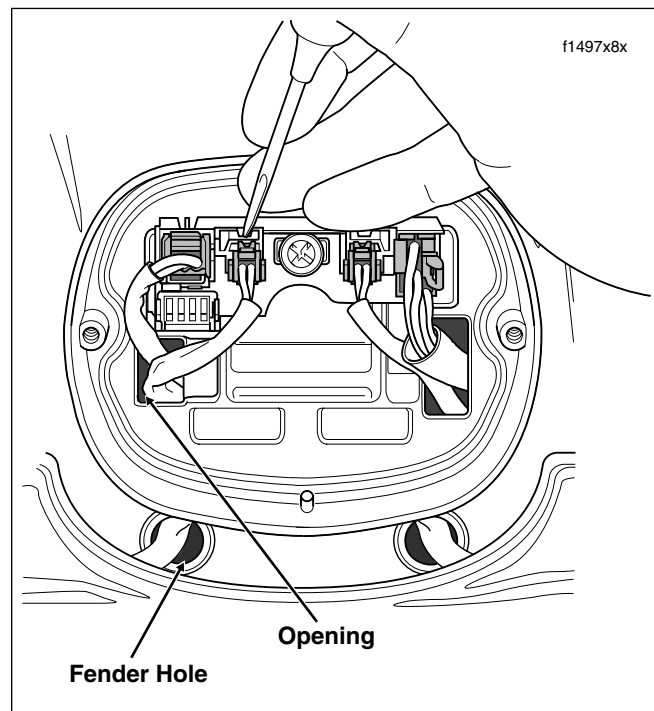

Figure 8-66. Use Pick Tool to Release Left Turn Signal Lamp Socket
4. Disconnect turn signal lamp assembly, 2-place Multilock. For best results, use a pick or small screwdriver to depress release button as shown in Figure 8-66.
7. Draw conduit and socket housing out through fender hole just below chrome base. See Figure 8-66.
5. Route socket housing through channel in bracket, and then feed through fender hole just below chrome base. See Figure 8-66.